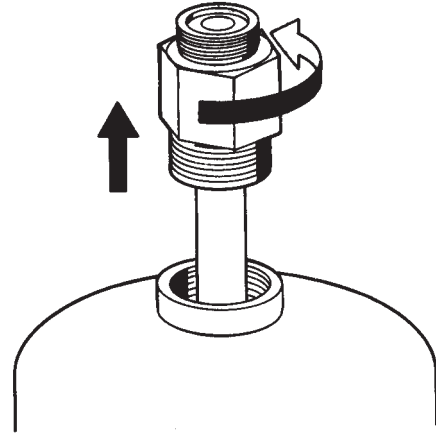

FIGURE 2
8. Remove tank adaptor/tube assembly from each tank. See Figure 2.